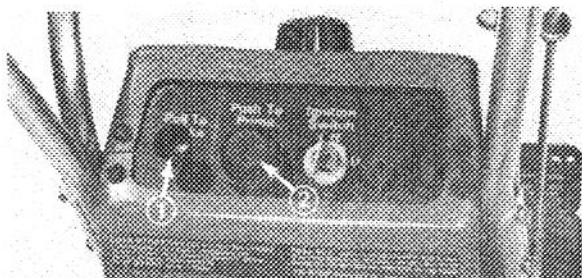

Figure 6
2. Pull choke out (Fig. 6).
3. Put thumb on center of primer so hole is covered and sealed (Fig. 6). Depending upon temperature at which the machine is stored, push the primer one to four times. For temperatures above +20° F (-7° C) use one or two primes; below +20° F (-7° C), use three or four primes; for extremely cold temperatures, below -10° F (-23° C) use five to six primes.
4. Turn ignition key to ON (Fig. 6).
5. To start S140 Recoil Start, put one hand on the lower handle to steady the snowthrower. Next, grasp recoil starter handle (Fig. 6) and pull vigorously to start engine. If engine does not start after four pulls, prime engine again as described and pull recoil starter handle four more times. Repeat this procedure until engine starts.
1. Turn ignition key to OFF (Fig. 6).